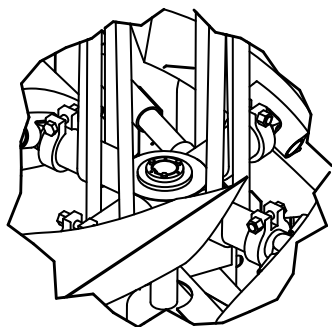

Figure 41. Bushing Bolts
7. Gradually tighten the bushing bolts in several passes to evenly seat the tapered bushing into the hub flange, and lock the bushing to the shaft (**Figure 41**). Refer to **Table 10** which lists the prescribed torques for the bushing bolts.